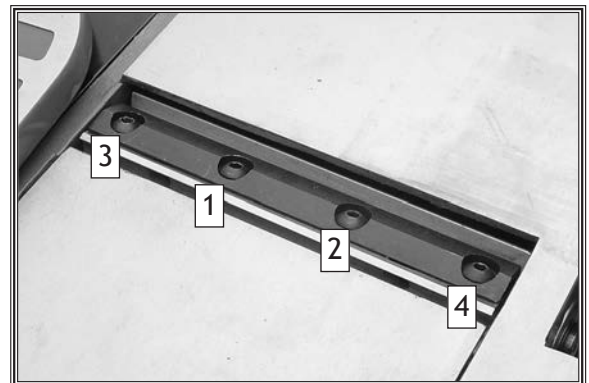

Figure 40. Knife clamp screw tightening sequence.
8. Slightly tighten the clamp screws, according to the proper tightening sequence, as shown in **Figure 40**. Repeat **Steps 6-7** for the other cutterhead knife.
10. When the knife heights are set correctly, final tighten each of the knives' clamp screws according to the proper tightening sequence (see **Figure 40**).